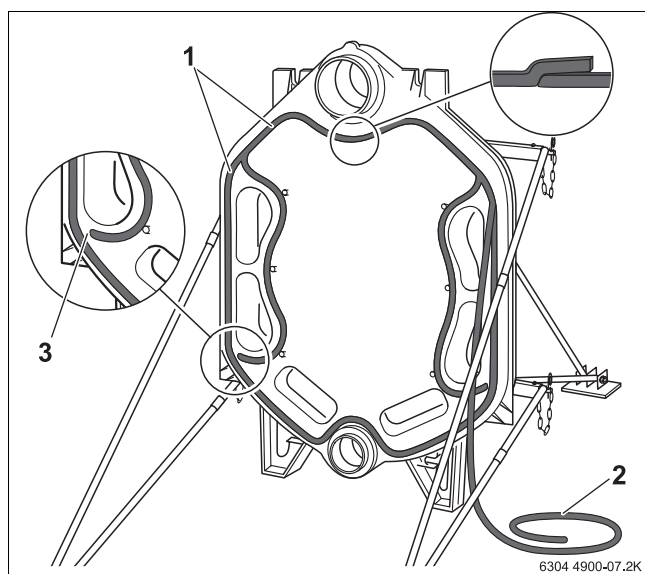
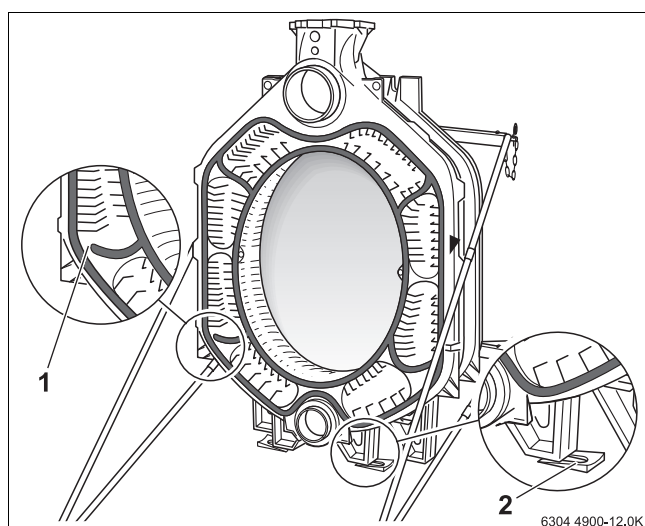

Fig. 12 Inserting packing cord (KM cord)
Fig. 17 Using the boiler section foot wedges
- ▶ Do not allow the packing cord to overlap on the left- or right-hand joints (→ Fig. 12, [3]).
Fig. 17 shows the central section with flow connection. The nipples for fitting the next central section are inserted into the corresponding hubs. The packing cord has already been inserted into the packing groove. As with the rear section (→ Fig. 12, page 15), there is also a break in the elastic packing cord here. The boiler section has been equipped with foot wedges for ease of installation. The boiler section foot wedges are also used later for final levelling of the boiler block.
- ▶ Level the boiler block vertically and horizontally on the base/silencing plinth (→ see Chapter 4.3.1, page 12). Use the boiler section foot wedges provided for this purpose (→ Fig. 17, page 17).